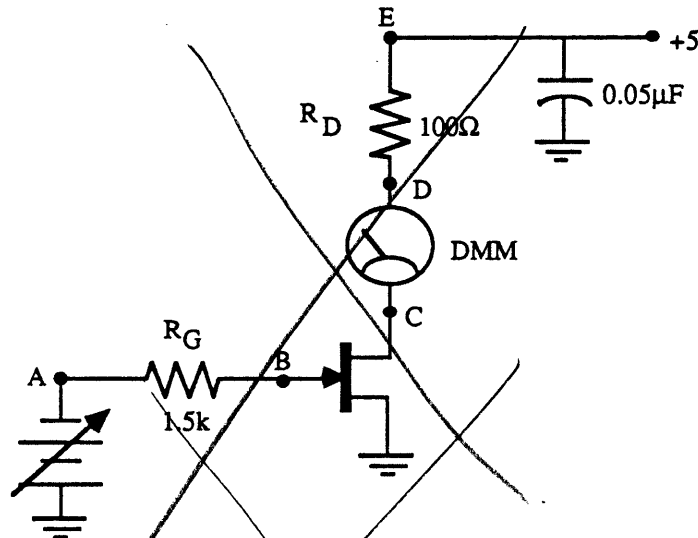

Figure 1 - Circuit for characterizing FETs
- (1) Set the curve tracer to the default drain characteristic settings listed in ^{Table} Figure 1.
- (7) Build the circuit shown in Fig.1.
(8) Adjust the variable supply so that the DMM reads approximately $1\mu A$.
(9) Remove the DMM and use it to measure V_{GS} , which is very nearly V_P . Record your results in Table 11.3
(10) Put back the ammeter (DMM), remove the variable supply, and ground point A.
(11) Record I_D , which is I_{DSS} . The current may slowly decrease due to heating of the transistor, so take your reading quickly. Record your results in Table 11.3.